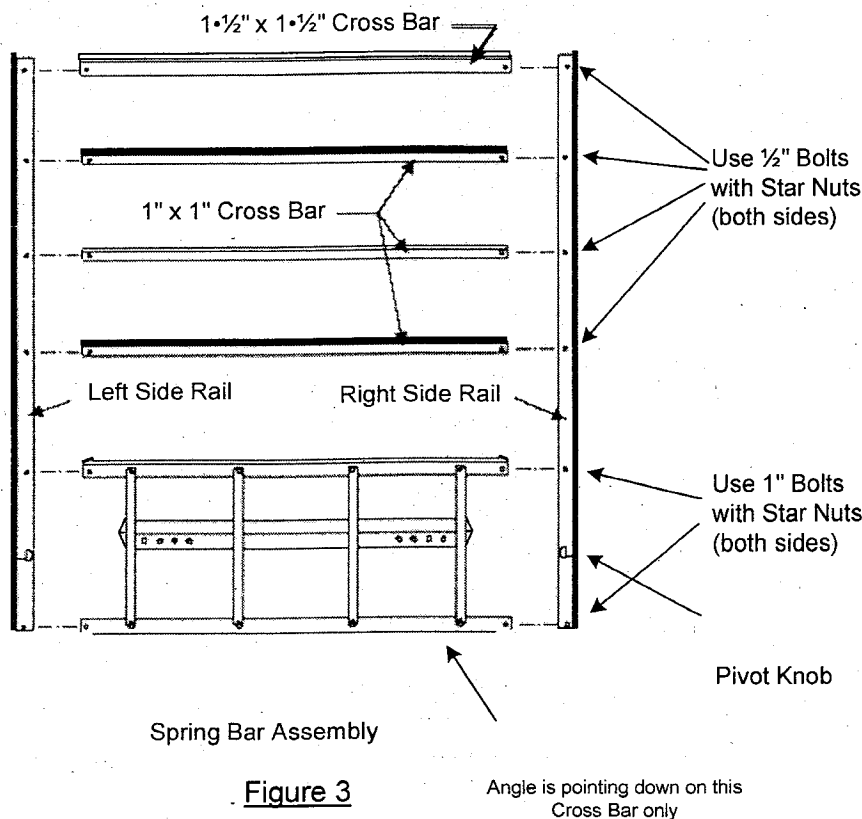
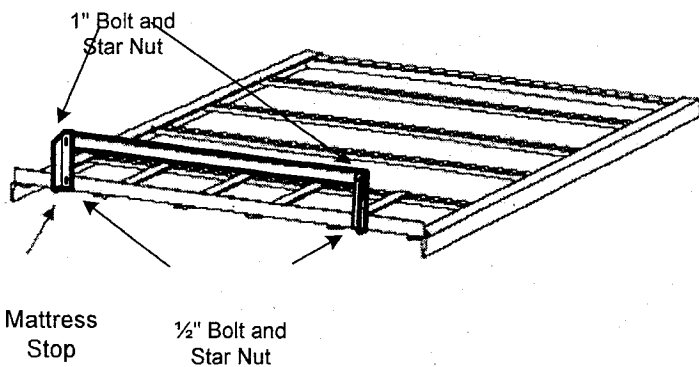

Figure 3
Figure 4
10. Lay parts flat out on floor so holes in Cross Bars are on floor and angle is pointing up and Pivot Knob is visible on Side Rails as shown in Figure 3.
11. Attach Cross Bars (A,A1orA2), (B,B1 or B2) and Spring Bar Assembly (E, E1 or E2) to Side Rails (C), (D), bringing Bolt through Side Rail into Cross Bar so head of bolt is touching floor and nuts can be HAND tightened.
13. Flip assembled Bed Frame over and attach two angle brackets (F) to head end of Spring Bar Assembly, then attach mattress stop cross bar (G,G1 or G2) (shorter thin bar with rounded ends) with bolts inserted from mattress side of stop. Figure 4